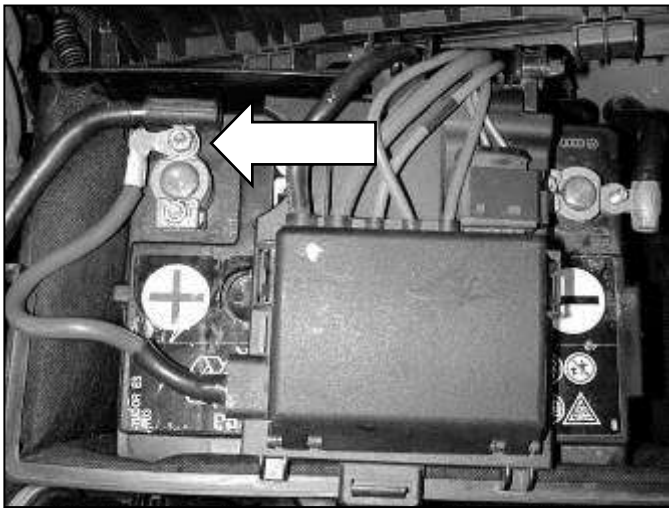

Fig. 1
- d. Lift the plastic battery cover and disconnect the negative battery terminal. Remove the short positive lead from the positive battery terminal. **(Fig. 1)**